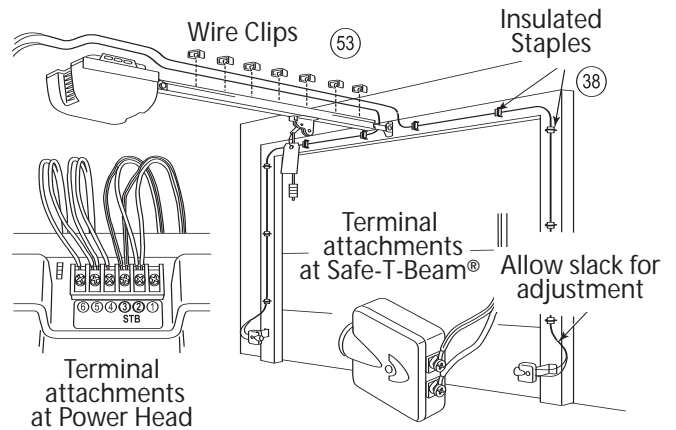
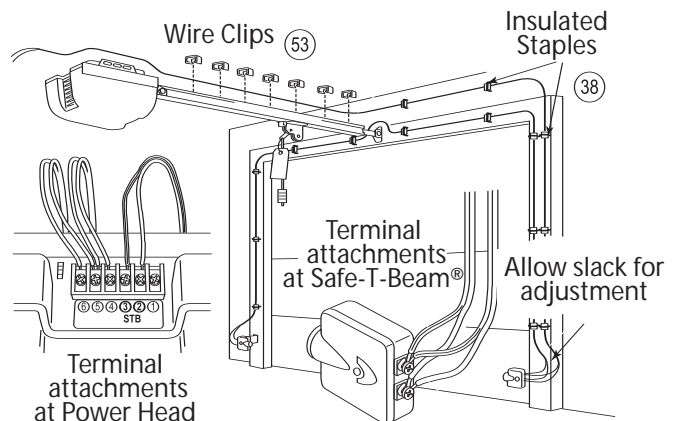

Figure 28 Wiring Method A
Figure 29 Wiring Method B
- Route Wire and Insulated Staples (Figure 28 and Figure 29).